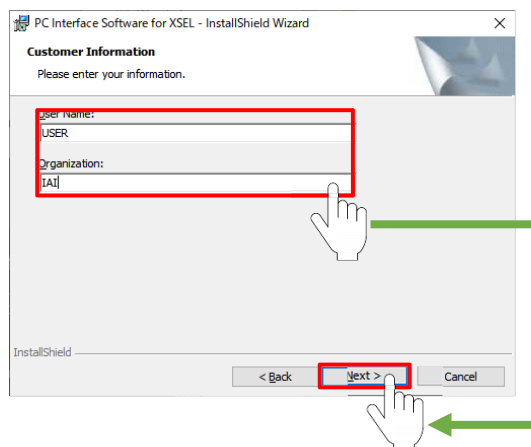

Fig. 1.9 User Information Registration Screen
- 7) The user information registration screen (Fig. 1.9) will be displayed. Enter user information and click **Next**.